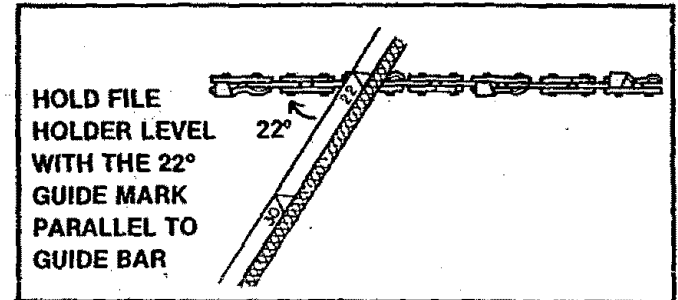

Figure 23
5. Hold the file holder lever (90°) with the 22° guide mark parallel to guide bar. Figure 23.